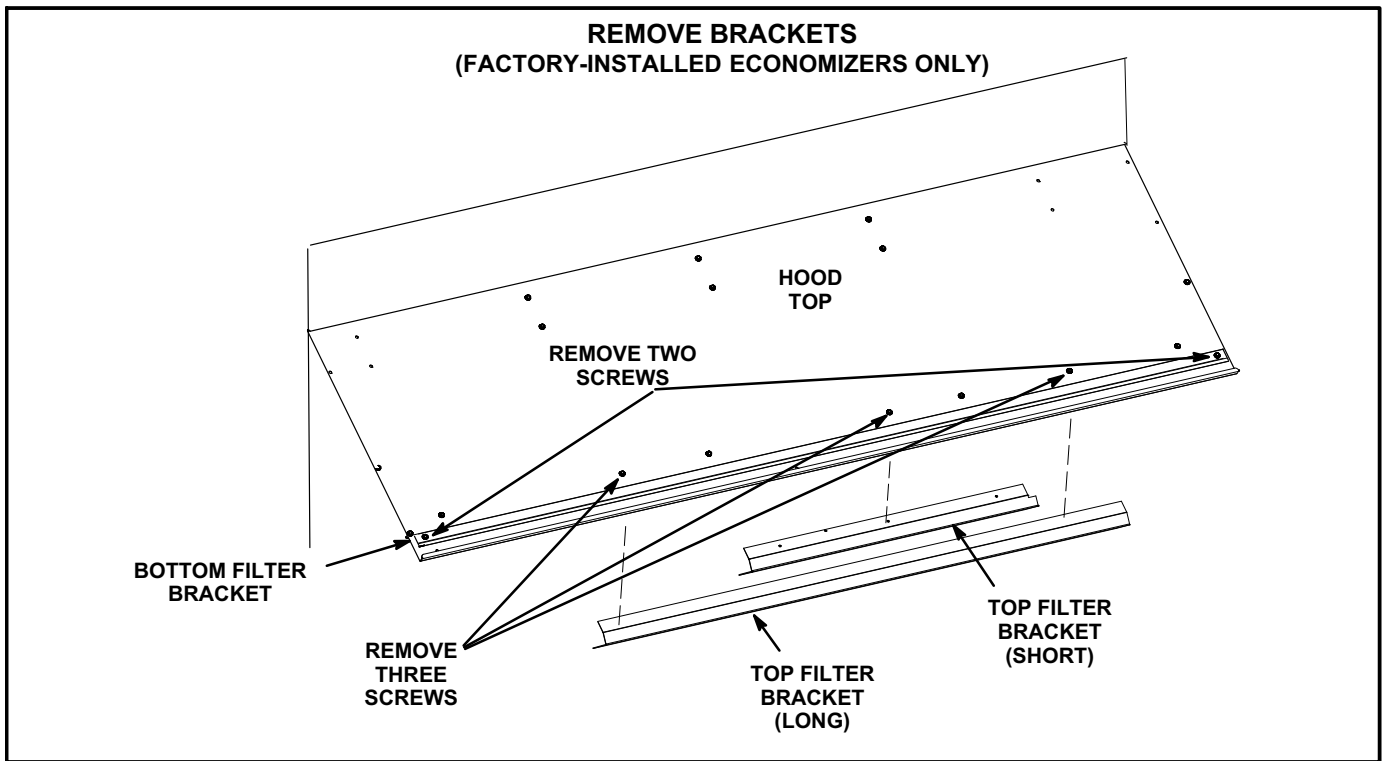

FIGURE 27
- 11- *Factory-Installed Economizers* - Remove the bottom filter bracket from the hood top assembly panel. See figure 27.
- 12- *Factory-Installed Economizers* - Remove the short and long top filter brackets from the hood top assembly panel. See figure 27.